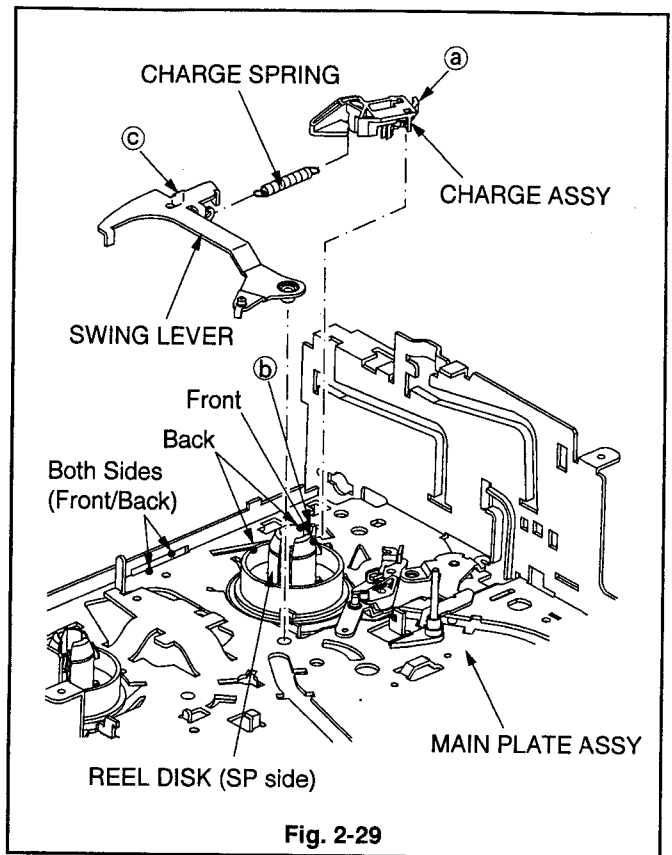

Fig. 2-29
1. Remove the CHARGE SPRING shown in the Fig. 2-29 from the SWING LEVER.
2. Remove the SWING LEVER shown in the Fig. 2-29.
3. Release the Part ① of the CHARGE ASSY shown in the Fig. 2-29 from the Part ② of the MAIN PLATE ASSY to remove the CHARGE ASSY.
1. Apply GREASE (MULTEMP AC-DM)[859D055O90] to the parts on the MAIN PLATE ASSY specified in the Fig. 2-29.
3. Install the SWING LEVER inserting the Part ③ of the SWING LEVER in the Fig. 2-29 into the groove in the MAIN PLATE ASSY.